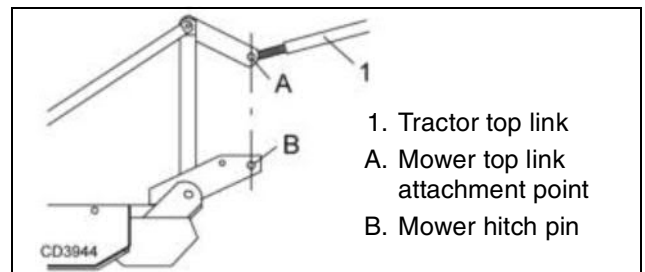

Figure 2. Attachment Points
2. Attach tractor top link (1), Figure 2, to mower top link bracket attachment point A. Connect the driveline to the tractor PTO shaft.